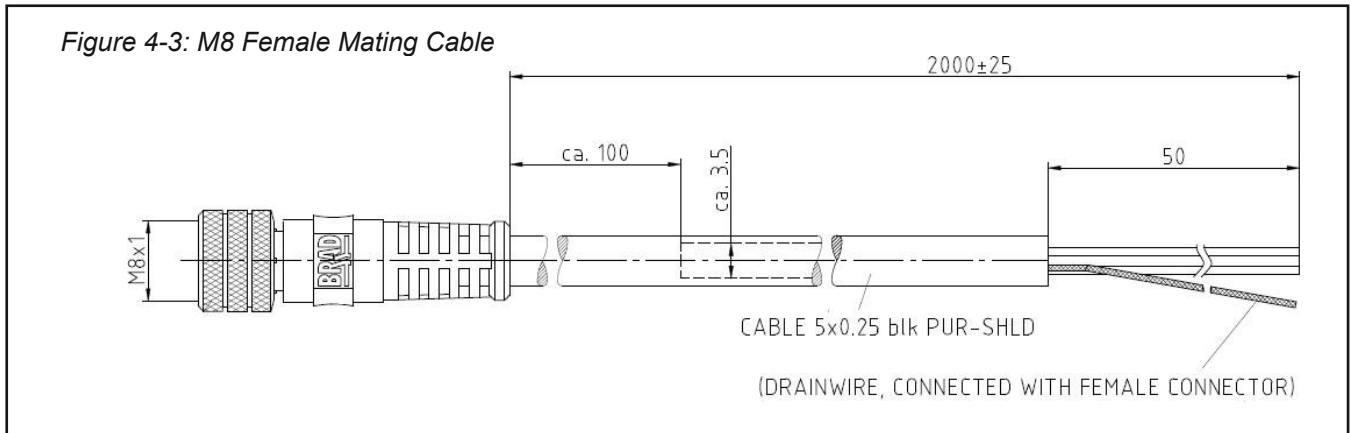

Figure 4-4: M8 Female Mating Cable Connector Pin
The available physical interfaces on the EtherNet/IP™ AMF device are listed below (Figure 4-4):
As noted in the Physical Interface Sections, above, each AMF Series EtherNet/IP™ device has (2) RJ-45 Ethernet Connection ports labeled 1 and 2 (Figure 4-4). Network connections can be made to either or both ports, depending on the network topology. The AMF Series EtherNet/IP™ device will support star, linear and DLR (Device Level Ring) topologies.